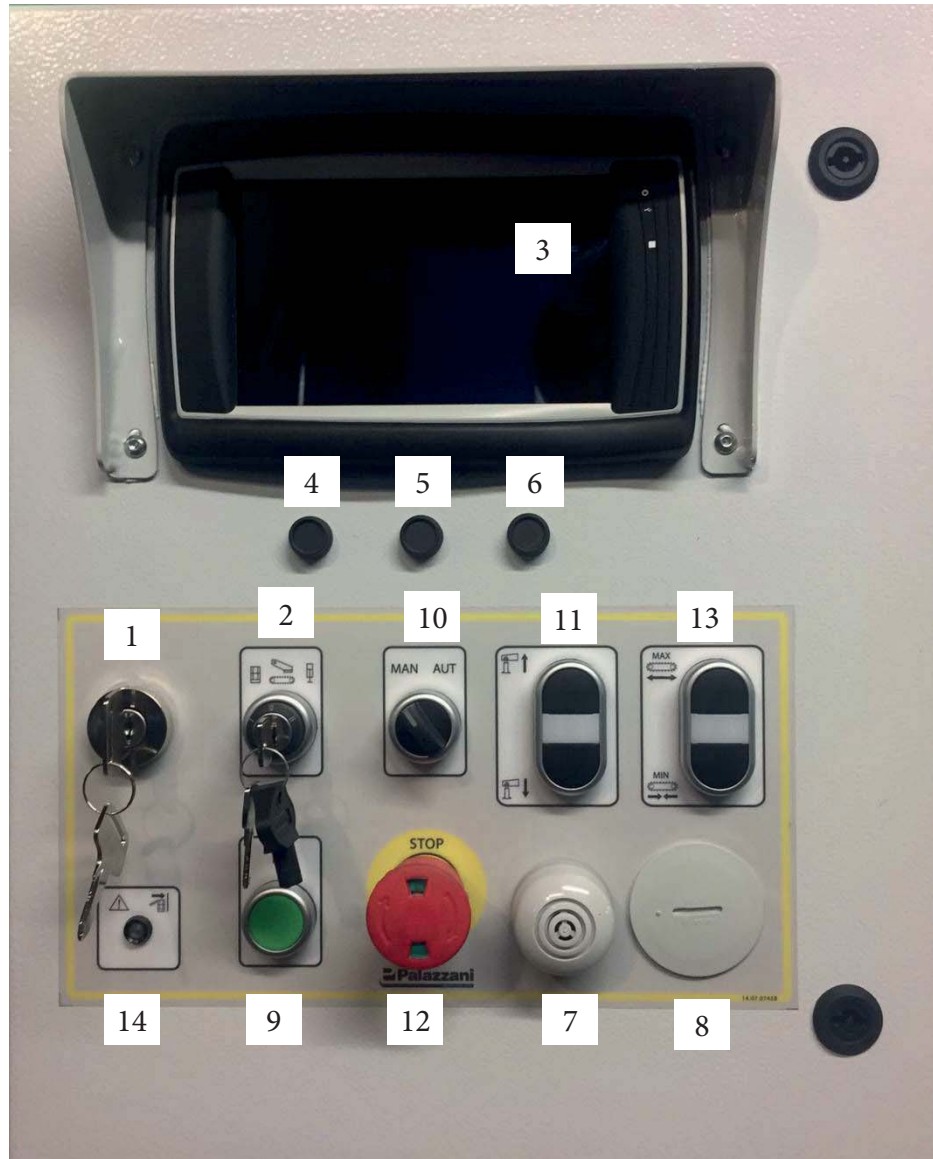

Fig 3.1
- Turn on the machine from the main panel (part 1 Fig. 3.1) in position 1 (oil and battery lamps switch on)
- **Ground control panel:** keep turned the key 1 of Fig. 3.1 over the first step, but without switch on the engine